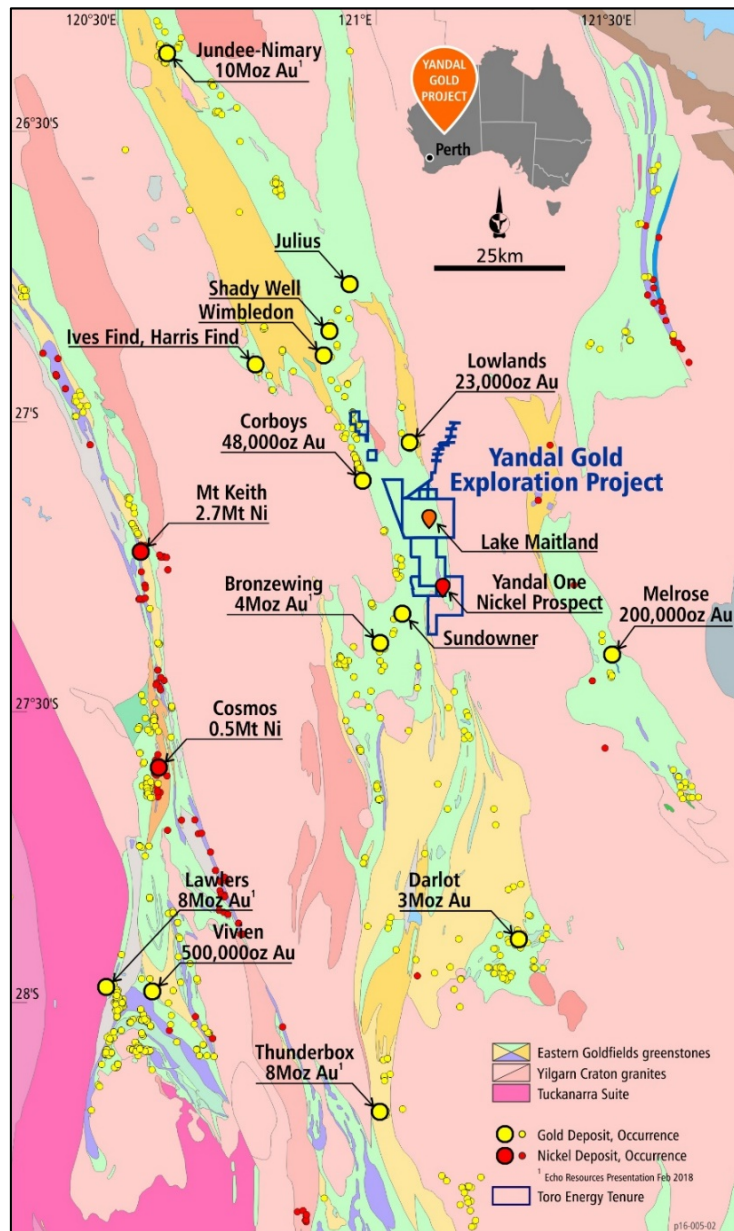
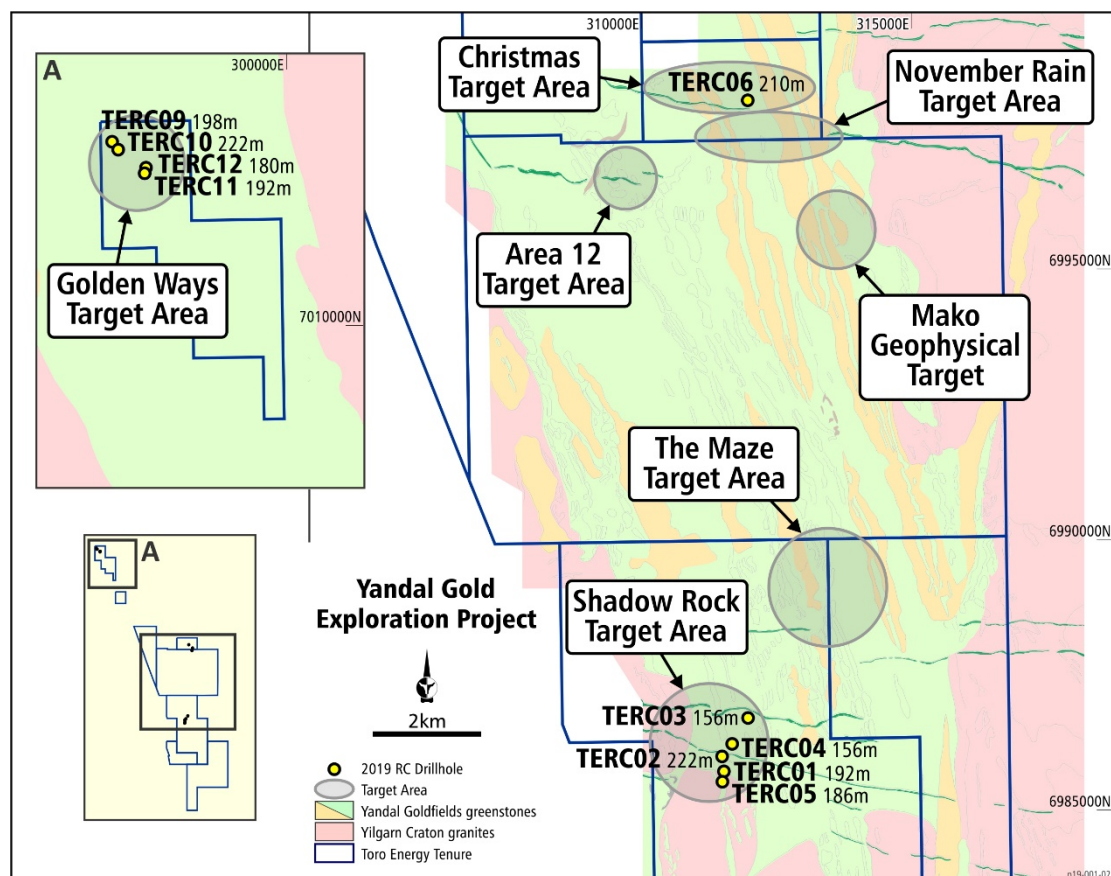

Figure 1: Location of Toro's Yandal Gold Project within the high yielding Yandal Gold District
Figure 2: Location of RC drill holes completed to date in the current drilling program (see text for details).
Toro Energy Limited (**ASX: TOE**) ("**Toro**", the **Company**") is pleased to announce that assay results from the 2019 maiden RC drilling programme, at the Company's 100% owned Yandal Gold Project ('the **Project**') (**Figure 1**), along with detailed surface mapping, have confirmed that a major quartz vein gold system has been intersected in Toro's first drill holes in the Golden Ways Target Area (**Figures 2 and 3**).
Toro's 100% owned Yandal Gold Project is located within the world class gold district, the Yandal Greenstone Belt, less than 35km NE of the multi-million ounce Bronzewing Gold Mine (**Figure 1**). The Yandal Gold Project is also only some 50km east of the world class Mt Keith Nickel Mine.
An extensive aircore drilling campaign conducted over late 2018 and early 2019 incorporated only a few of these structural targets (refer to the Company's ASX announcement of 17 October 2018) identified six (6) main target areas for gold exploration, including a number of gold and nickel-copper-platinum group element (PGE) geochemical anomalies in top-of-basement rock. These target areas are now known as Christmas (gold and gold-nickel-copper-PGE anomalies over structural targets), November Rain (gold and gold-nickel-copper-PGE anomalies over structural targets), Area 12 (gold over structural target), Mako (magnetic and gravity geophysical target), The Maze (gold anomalies over structural targets) and Shadow Rock (gold anomalies over structural targets) (**Figure 2**).